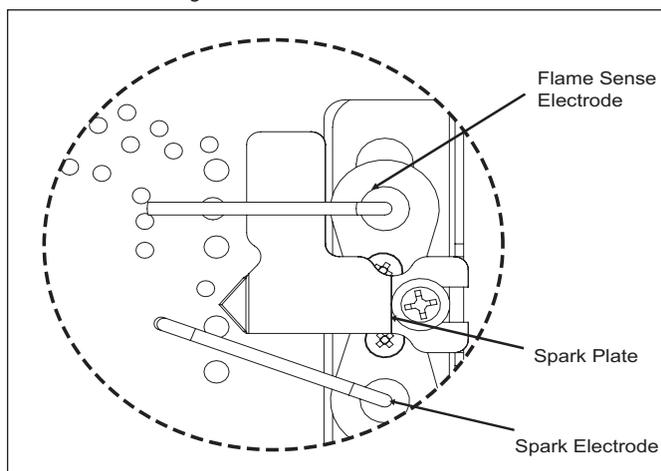

FIG 25
6. Replace in reverse order, checking correct location of spark/sense electrodes. Refer to **FIG 25**. Spark gap between electrode and spark plate is 6 - 8 mm. Flame sense electrode **MUST** be in constant flame. Check for gas tightness. For log placement, refer to page 13 of this manual.